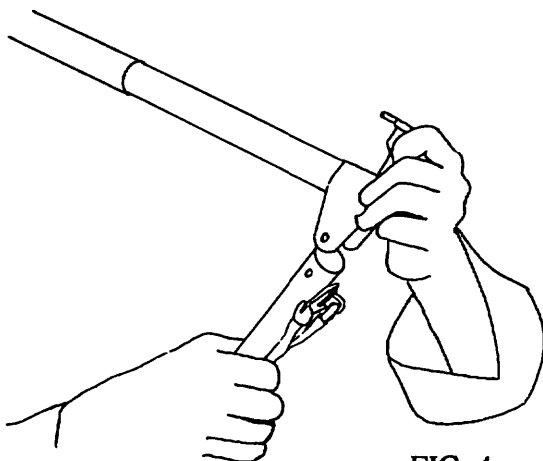

FIG 4
4) Attach the free end of the base tube to the downtube using the wing nut and safety provided.(fig 4 and 5)